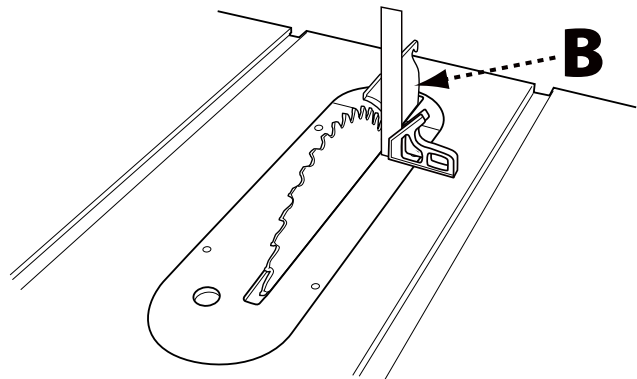

FIGURE 24b
3. Using a carpenter's square, check the angle of the blade face to the table, as shown in Figure 24b, page 20. If the blade is at 90° to the table, proceed to Step 6.
4. If the blade is not perpendicular to the table, turn handwheel to slightly tilt the blade away from the stop position then adjust the 90° stop by rotating the socket set screw located in the table top immediately in front of the left side of throat plate (A). Re-check angle using the carpenter's square and continue to adjust until the blade is at 90 degrees when returned to the stop position.
5. Rotate the blade tilt wheel counterclockwise until it rests on the 45° stop. Then repeat Steps 4 and 5, adjusting the 45° stop by rotating the socket set screw located in front of the right side of the throat plate. (B)
1. **Vertical Alignment:** Place a carpenter's square on the table and against the blade face and make sure it extends up along the riving knife (B) as shown in figure 24b. The riving knife and blade should touch the carpenter's square with no gaps. Be sure the straight edge goes between the teeth and rests on the blade face and the riving knife for proper alignment.